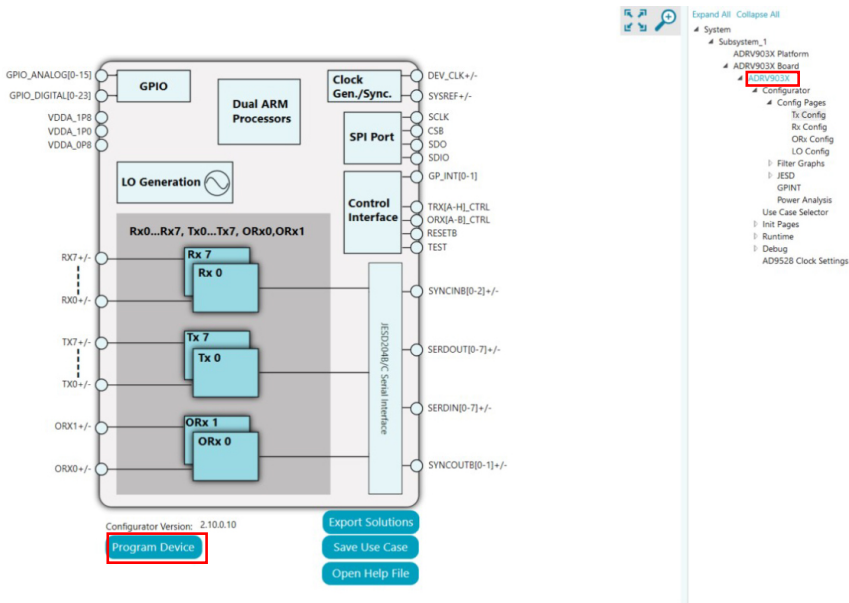

Figure 18. Top Level Program Page
4. Click the **Program Device** button as shown in Figure 18. Once the device is programmed successfully, the updated LO frequency is ready to use.